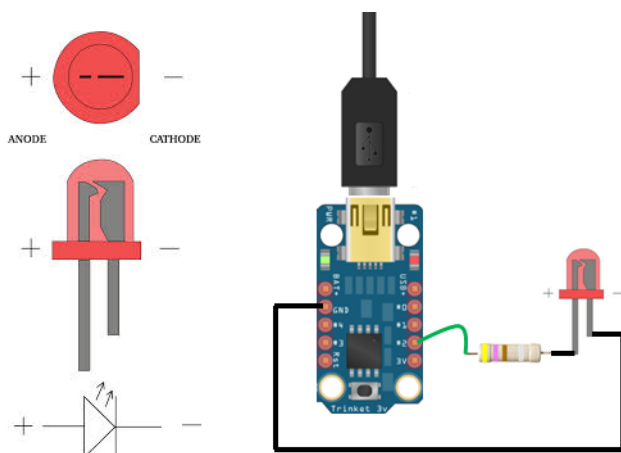

Figure 3-9. LED polarity and connecting a resistor to an LED and to the Trinket
An LED can be connected to any of the Trinket data lines. The circuit can blink an LED, similar to blinking the built-in LED as we did earlier. You can set this up on a breadboard with a resistor and an LED as shown in Figure 3-9 (right). You'll then be able to blink the LED from whatever data pin you connect it to.
- An LED, any color you have on hand. The diode has a polarity, as shown in Figure 3-9 (left). The side with a flat part and a short lead is